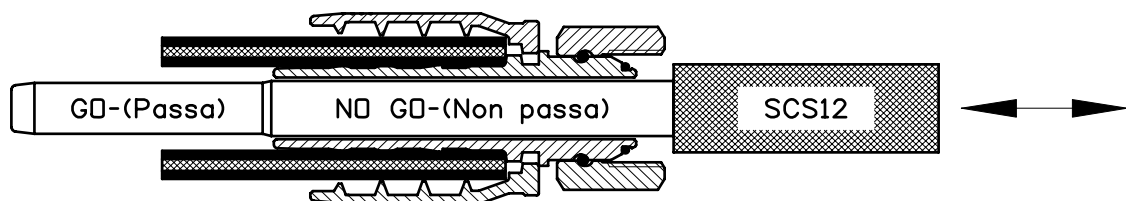

Figure 2
- 4- Place the ferrule fully onto the hose. Push the insert fully into the hose. Select the "COLLAPSE CONTROL MANDREL" for size and series of TIEFFE inserts. Insert the MANDREL into the insert bore. The "NO GO" part of the MANDREL must fully go into the insert bore. (See Figure 2). Remove the MANDREL.